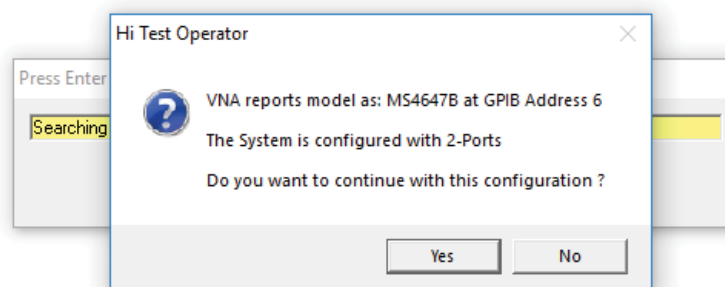

Figure 4-7. VNA Confirmation Dialog Box
6. When a VNA is found, a VNA confirmation box appears, as shown in Figure 4-7.